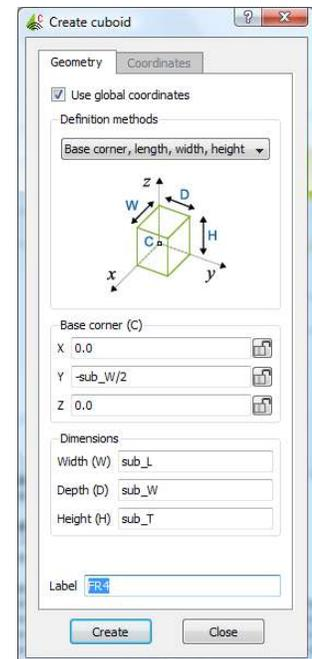
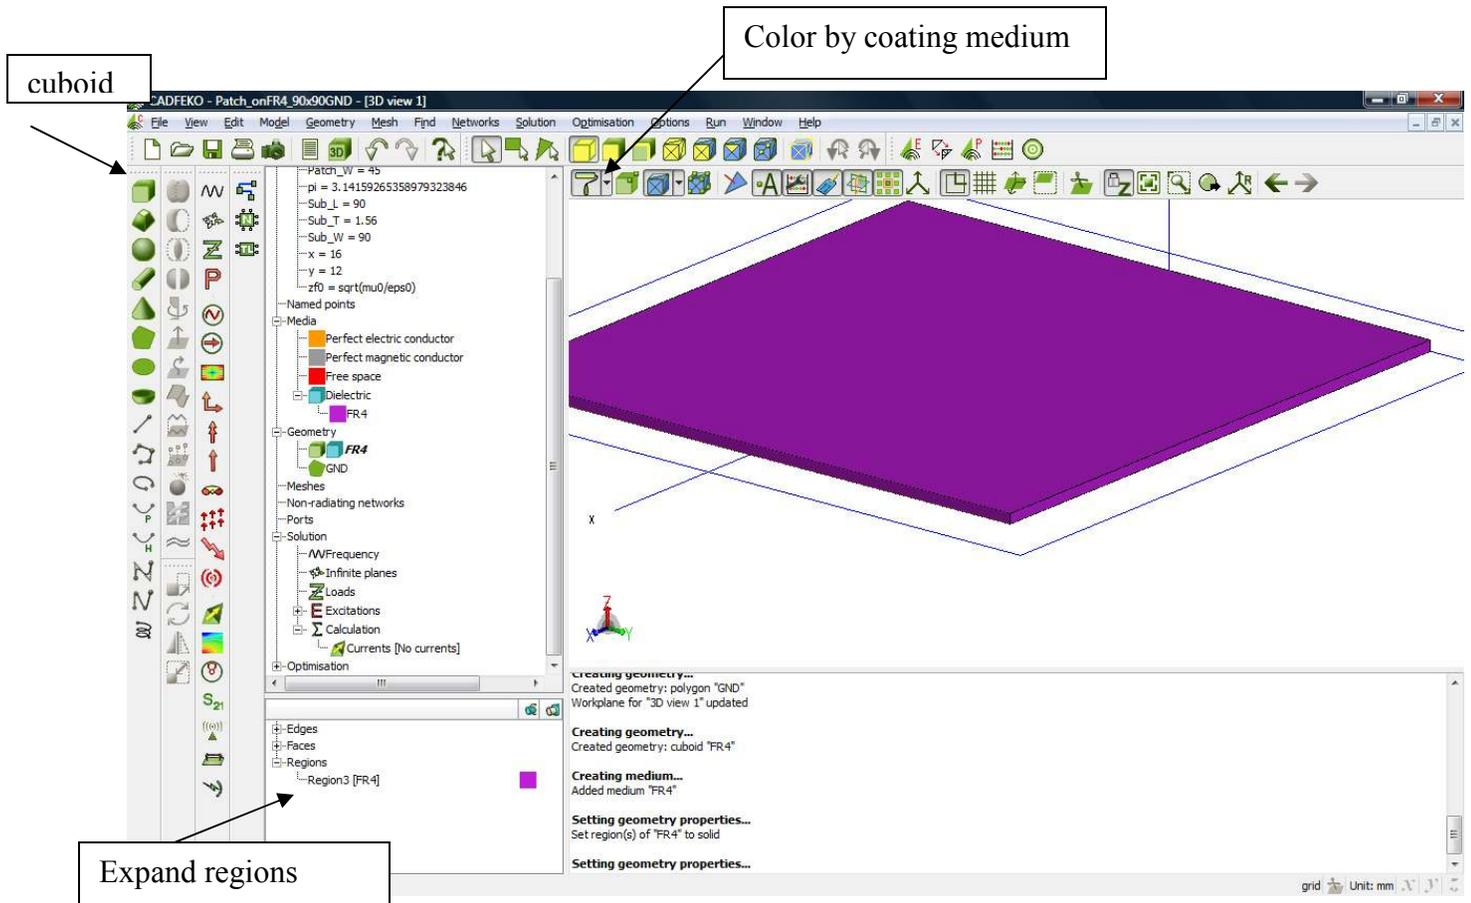

Figure 7.
Figure 8.
9. Now, we can create the dielectric substrate. Choose “Cuboid” from the left side menu, and substitute the dimensions as shown in Figure 7, then hit “Create”. You will see the FR4 substrate on TOP of the GND plane you created. To make sure all is ok, rotate the view by clicking the left mouse button, and move the mouse around. Figure 8 shows one view that you might have (bottom view).